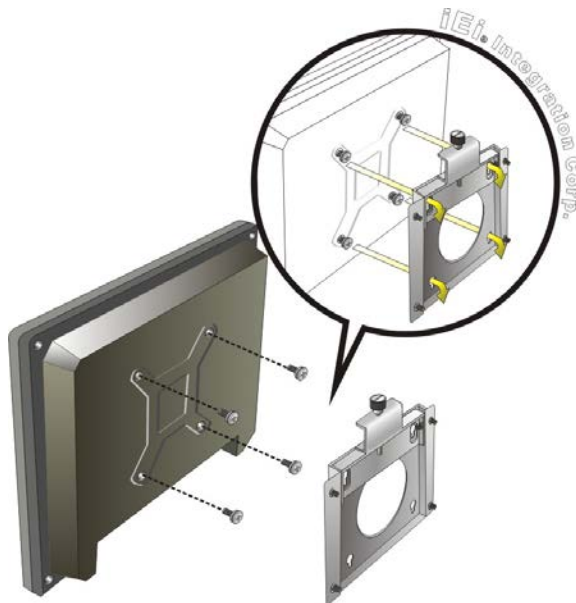

Figure 4-17: Chassis Support Screws
Step 6: Insert the four monitor mounting screws provided in the wall mount kit into the four screw holes on the rear panel of the flat bezel panel PC and tighten until the screw shank is secured against the rear panel (**Figure 4-17**).
Step 8: Carefully insert the screws through the holes and gently pull the monitor downwards until the monitor rests securely in the slotted holes (**Figure 4-17**). Ensure that all four of the mounting screws fit snugly into their respective slotted holes.